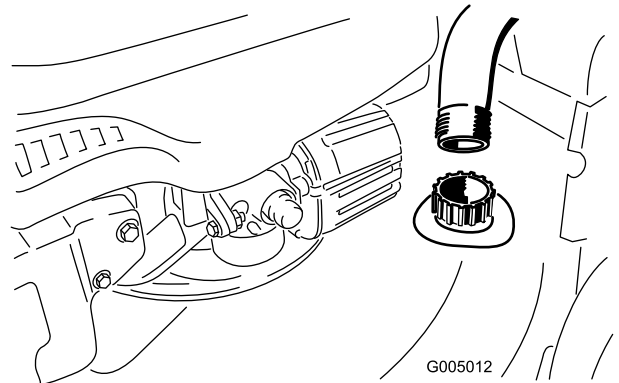

Figure 29
3. Attach a garden hose that is connected to a water supply to the washout port on the mower housing (Figure 29).